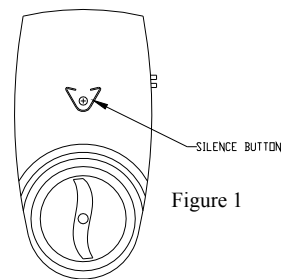

Figure 1
4. Open valve by turning front knob ¼ turn clockwise to the green mark on the cover. Now the controller is open and ready to sense any water. Check that everything works properly by placing tip of the sensor into a small cup of water. The valve should close and alarm will sound. You can silence alarm by pressing button printed with a + sign inside a circle (see figure 1).